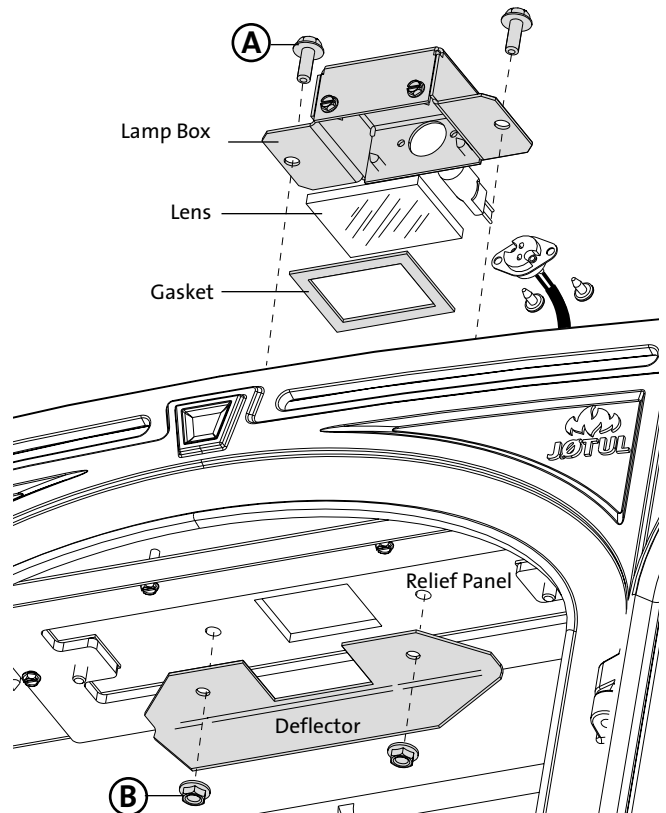
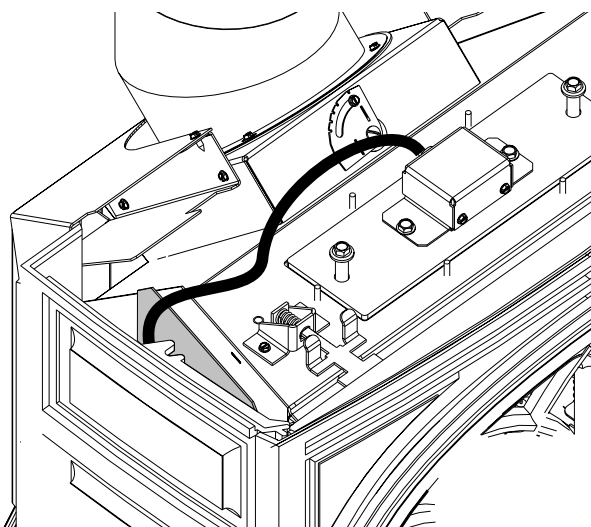

Figure 44. Accent Lamp installation.
Figure 45. Route the lamp harness between the heat shield and the cast iron side panel.
2. Remove the two flanged hex head bolts (A), nuts (B) and cover plate from the Relief Panel using a 10 mm socket or wrench. See fig. 44.
3. Position the Gasket, Lens, and Lamp Box on the top of the Relief Panel using the two bolts (A) previously removed.
4. Inside the firebox, attach the Light Deflector plate to the bolts on the underside of the Relief Panel using the nuts (B) previously removed.
5. Route the controls wire harness over and down between the heat shield and the left cast iron side. Connect the harness to the (L) terminal on the rear of IFC board. See figs. 45, 46, page 28.